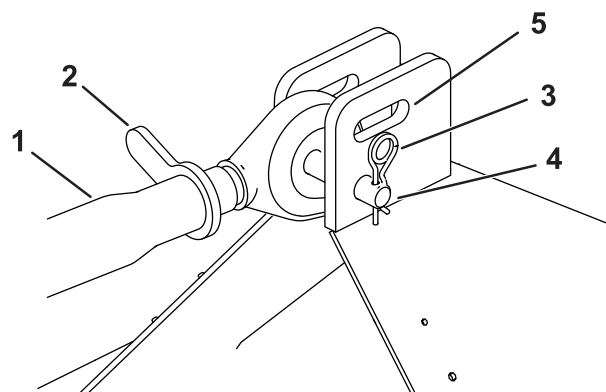

Figure 10
1. Connect the upper link arm to the bracket and secure it with the link pin and the hairpin cotter (Figure 10).